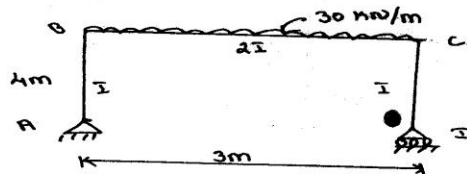

Figure -2
2. Analyse the frame shown in figure-2 by slope deflection method. (15)